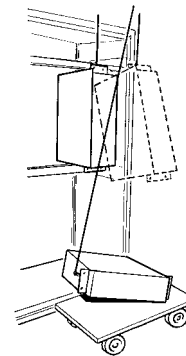
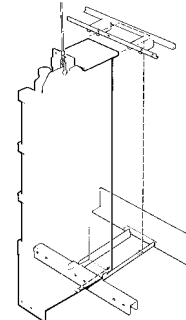

Figure 5-7. – Lifting A DELTA Power Module
Figure 5-8. – Positioning A Power Module Between The Guide Rails
- a) Rotate the module lifting bracket ((16.5mm (5/8 in) diameter), at the top of the module - into a vertical position and attach it to the lifting equipment shackle. See Figure 5-7,
- b) Lift the module to the appropriate height and move it into position to insert into the frame. See Figure 5-7 and Figure 5-8.
- c) Tilt the module as it is moved into its slot so that it clears the withdrawal 'stop screw' which is built into the bottom right-hand guide. See Section 2 Figure 2-7, Figure 2-20 and Figure 5-8.